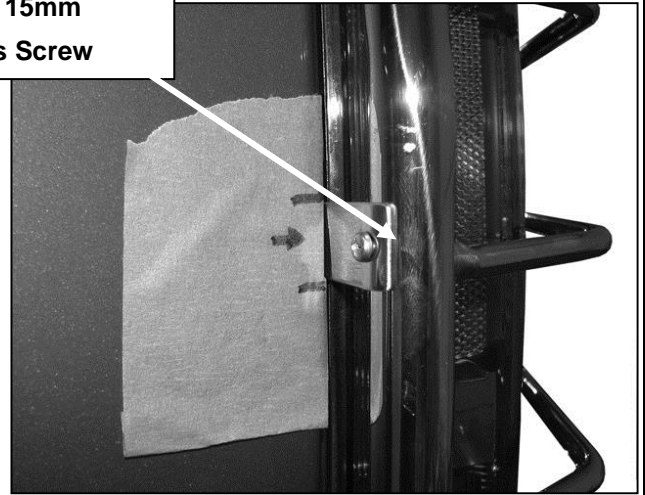

Fig 2
3. Disconnect the wiring harness and set the taillight aside. Select the driver side Taillight Guard and (1) Support Bracket. Temporarily bolt the Support Bracket to the Guard with (1) 4mm x 12mm Phillips Screw, (**Figure 2**). Apply a layer of removable tape, (masking tape for example), around the edge of the opening for the taillight assembly. Hold the Taillight Guard in place on the vehicle with the Support Bracket flush against the edge of the body protected by the tape. Bolt the (2) mounting tabs on the Guard to the vehicle with the included (2) ST6.3mm x 25mm Philips Screws and (2) 8mm Flat Washers, (**Figure 3**). Do not tighten hardware at this time.